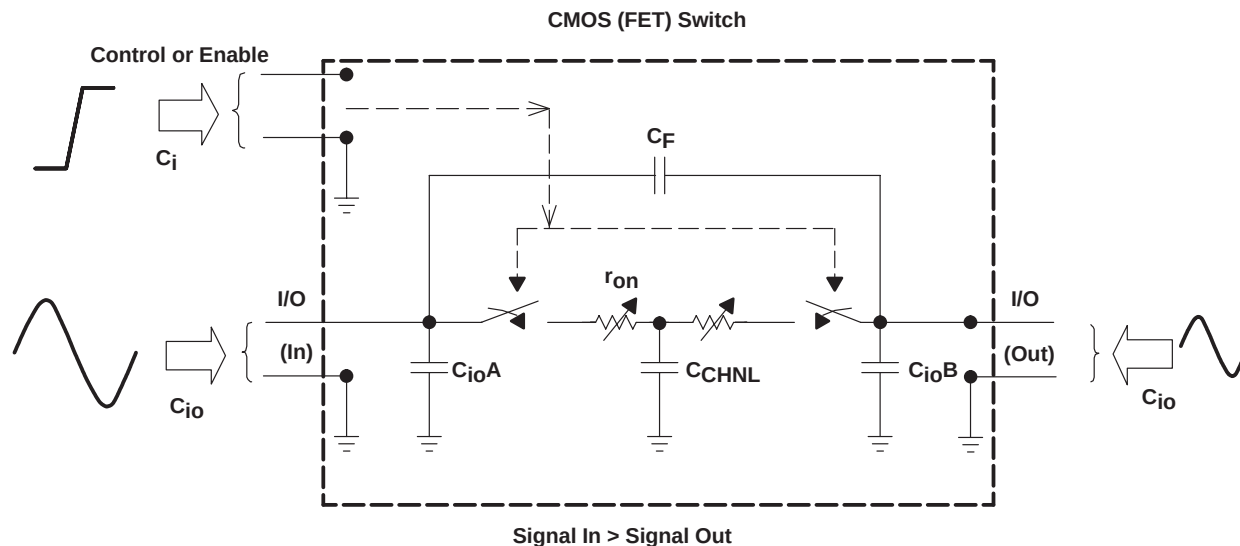

Figure 2. Simplified CMOS (FET) Switch
Like mechanical switches, solid-state switches are not ideal either. In fact, losses associated with solid-state switches can be significant. Why use a switch like this if it is so far from ideal? The answer is convenience. Solid-state switches are small, fast, easy to use, easy to control, and consume relatively little power compared to traditional electrically controlled switches, such as relays. The switches referred to in this application report are complementary metal-oxide semiconductor (CMOS) field-effect transistor (FET) switches. As mentioned previously, they are not ideal, so we need a way to examine and compare the performance characteristics of the different CMOS families. Figure 2 shows a simplified-circuit model of a CMOS switch.
The output signal (right side, Figure 2) is altered due to parasitic effects of the switch. Results may include decreased amplitude, signal distortion, phase shift, the introduction of noise, and frequency attenuation.
- Sine-wave distortion or total harmonic distortion. These are measurements of the linearity of the device. Nonlinearity can be introduced a number of ways (design, device physics, etc.) but, typically, the largest contributor is r_{on} . As shown in Figures 2 and 4, r_{on} varies with $V_{I/O}$ for all types of CMOS switches. Having a low r_{on} is important, but a flat r_{on} over the signal range is almost equally important. N-channel switches, such as CBT, exhibit very flat r_{on} characteristics for signal ranges of $0 < V_{I/O} < (V_{CC} - 2 \text{ V})$, but r_{on} increases very rapidly as $V_{I/O}$ approaches V_{CC} and V_{GS} decreases. Parallel n-/p-channel switches offer good r_{on} flatness for signal ranges of $0 < V_{I/O} < V_{CC}$, with the best flatness characteristic at the highest recommended switch V_{CC} .
- Charge Injection (Q). TI specifies enable-to-output crosstalk and some competitors use this parameter. As with enable-to-output crosstalk, changing the state on the control pin causes a charge to be coupled to the channel of the transistor introducing signal noise. It is presented in this report for a relative comparison with the competition.